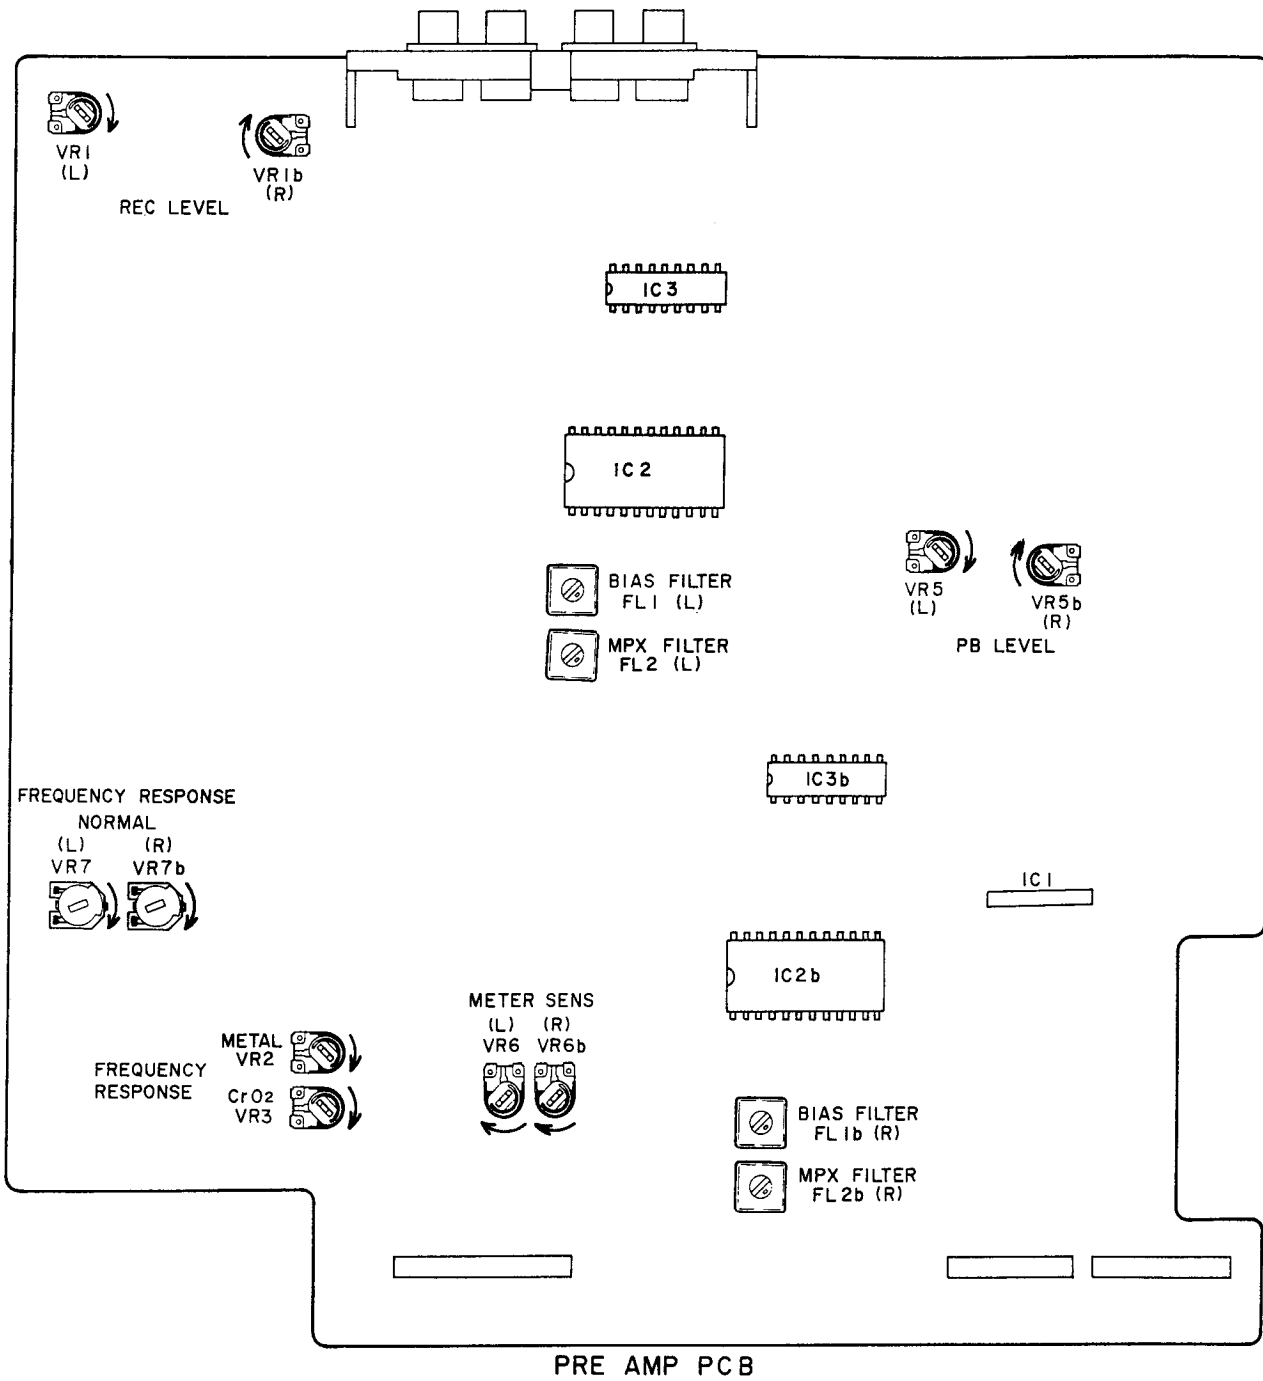

Fig. 8-2 Pre-Amplifier Adjustment Points
3. Refer to Fig 8-2 for the adjustment points.